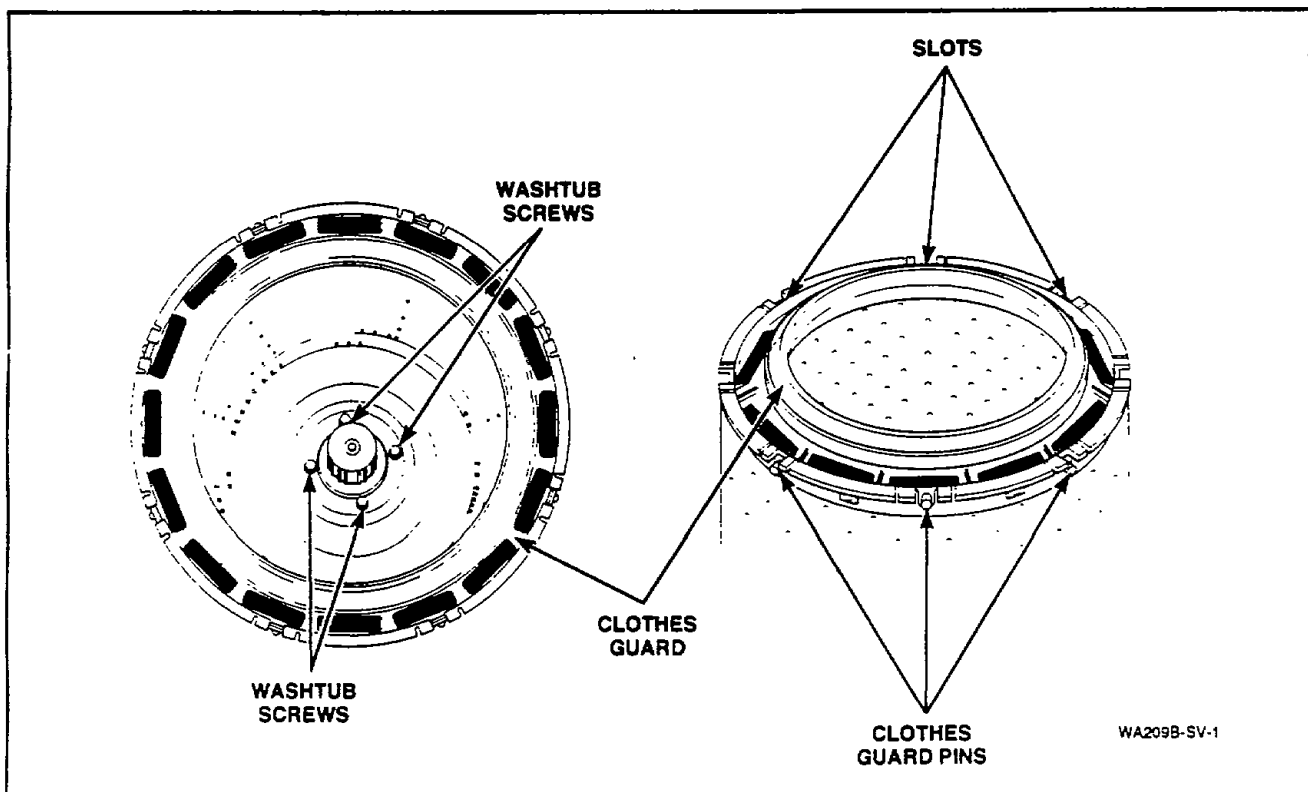

Figure 50
- h. Remove four screws and washers holding washtub to hub, *Figure 50*.
- a. Place blade of a small screwdriver into slots between clothes guard and washtub, *Figure 50*.
b. Carefully pry pins of clothes guard out of holes in washtub, *Figure 50*.